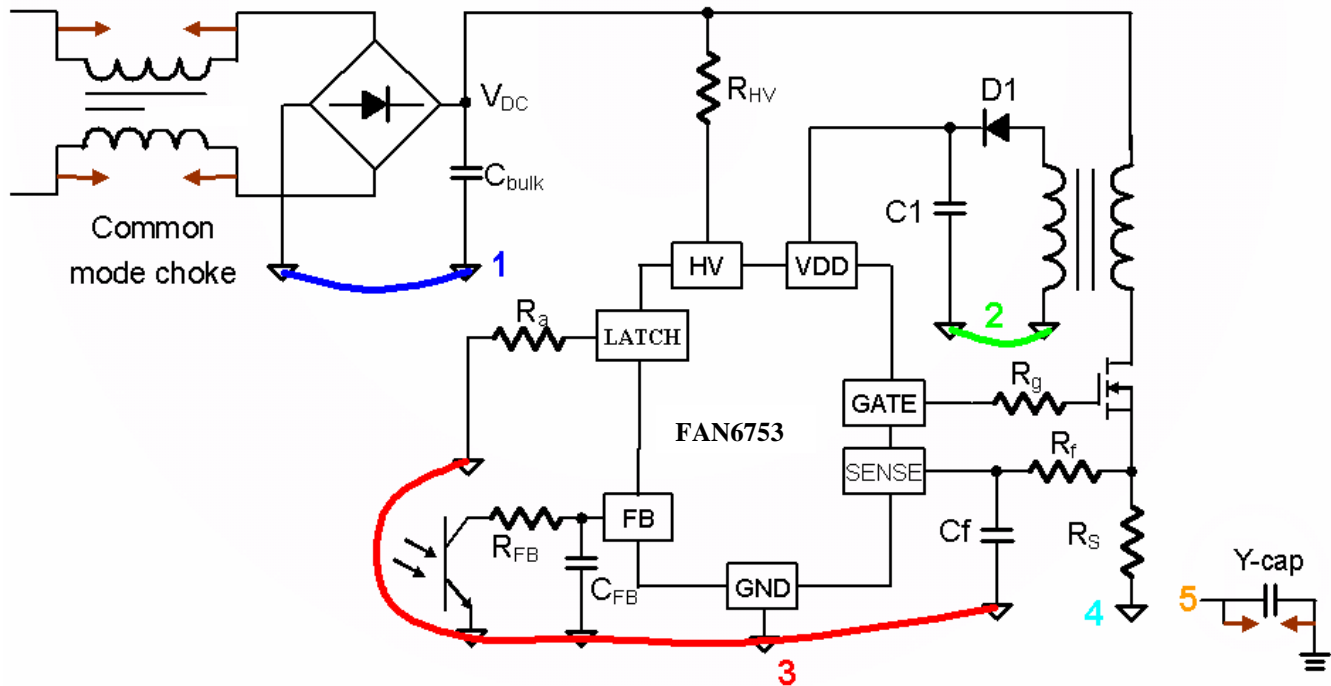

Figure 14. Layout Considerations
- The high-frequency current loop is found in the loop $C_{\text{bulk}} - \text{Transformer} - \text{MOSFET} - R_S - C_{\text{bulk}}$ in Figure 14. The area enclosed by this current loop should be as small as possible. Keep the traces (especially 4→1) short, direct, and wide. High-voltage drain traces related to the MOSFET and RCD snubber should be kept far from control circuits to prevent unnecessary interference. If a heatsink is used for the MOSFET, grounding the heatsink is recommended.
- As indicated by 3 in Figure 14, the control circuits' ground should be connected first, then to other circuitry.
- As indicated by 2 in Figure 14, the area enclosed by the transformer auxiliary winding, D_1 , and C_1 should also be kept small. Place C_1 close to FAN6753 for good decoupling.